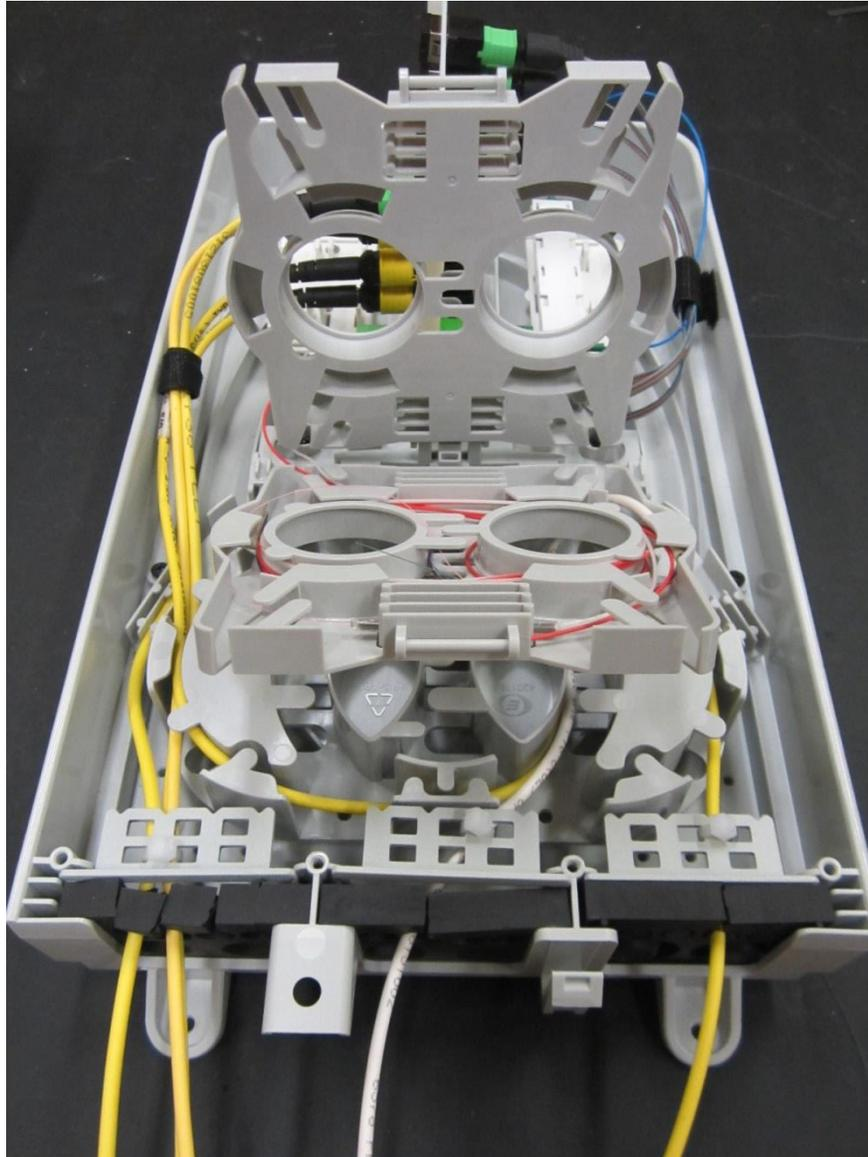

Fig.6 “Direct” style enclosure- typical installation
White multi-fiber drop outdoor –indoor cable is spliced to the optical splitter (s) input fiber(s) and the splitter(s) outputs are spliced to the distribution cable(s). In Figure 6, the distribution cables are yellow.
1. Open the enclosure and examine its content. Refer to Fig. 6. All assemblies will contain:
- c. Ten (10) pivoting Splice trays to hold splice protectors (note: the splice trays come in two colors: gray and black)